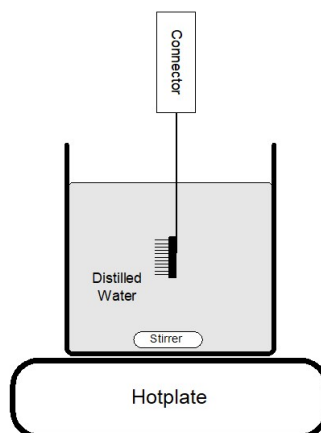

Figure 14–Cleaning array assembly in distilled water
2. Secure the connector on a lab stand. Immerse the electrode array and wire bundle in warm (30-35°C) distilled water or enzymatic cleaner for 15 to 60 minutes. **Figure 14** shows one way to suspend the electrode array in a beaker of cleaning solution with a heating and stirring plate for SLOW stirring.